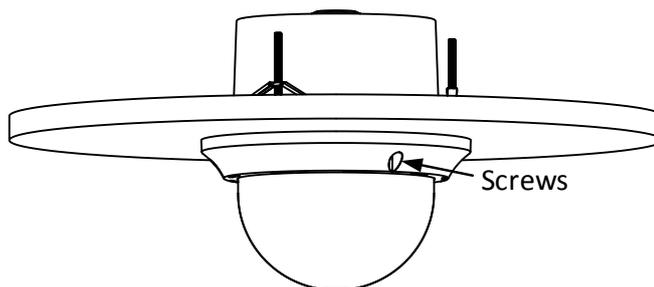

Figure 2-26 Install the Lower Dome
7. Secure the lower dome to the back box with three screws as shown in Figure 2-26.